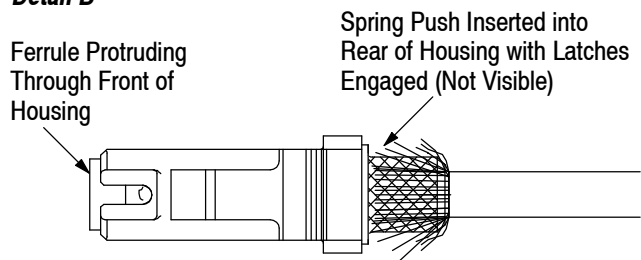

Figure 32
2. First, slowly insert the assembly into the housing (see Figure 32, Detail A) until the ferrule protrudes through the front of the housing (see Figure 32, Detail B). Second, insert the spring push into the rear of the housing until the latches engage. This is denoted by an audible “click”. See Figure 32, Detail B.